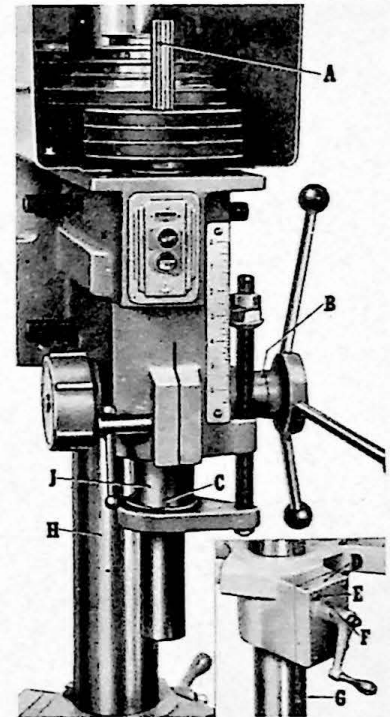

Figure 2
1. SPINDLE PULLEY DRIVE — use a light grease occasionally on spindle splines (A, fig. 2).
2. LOWER QUILL BEARING (C) — lubricate daily with a few drops of S.A.E. No. 20 oil. (All other ball bearings in head are lubricated-for-life.)
3. FEED SHAFT (B) oil once a week with S.A.E. No. 20 oil.
4. Keep QUILL (J) and COLUMN (H) covered with a light film of oil.
5. TABLE LIFT SHAFT (F) — oil once a week with S.A.E. No. 20 oil.
6. LIFT RACK (G) — lubricate regularly with S.A.E. No. 20 oil. Before oiling, clean rack with brush and kerosene.